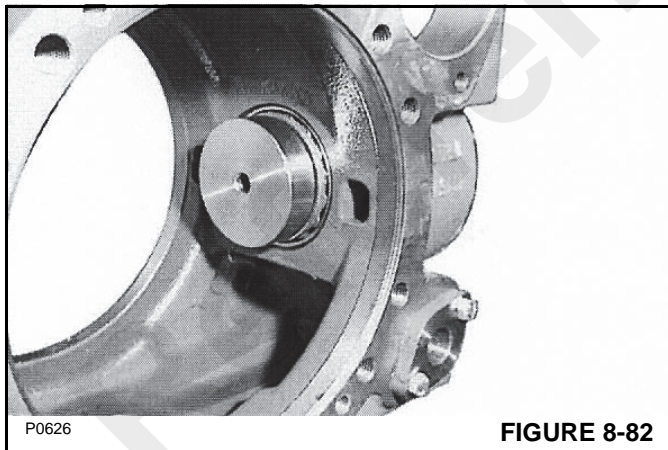

FIGURE 8-82
2. SPECIAL TOOL P/N 1901775 (*False Pinion*) is needed for this procedure. Insert the false pinion, together with its bearings and ring nut, in the bearing cups in the housing (Figure 8-82) installed in step 1. Tighten the assembly to remove any play (backlash) in the assembly.